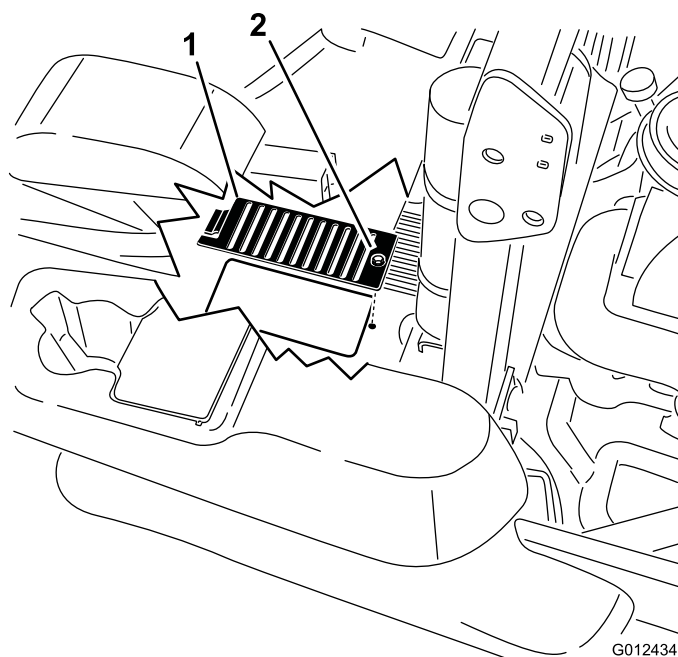

Figure 71
6. Over each dipstick, remove the cover and the bolt attached to the cover. Clean around each dipstick and hydraulic unit (Figure 71).